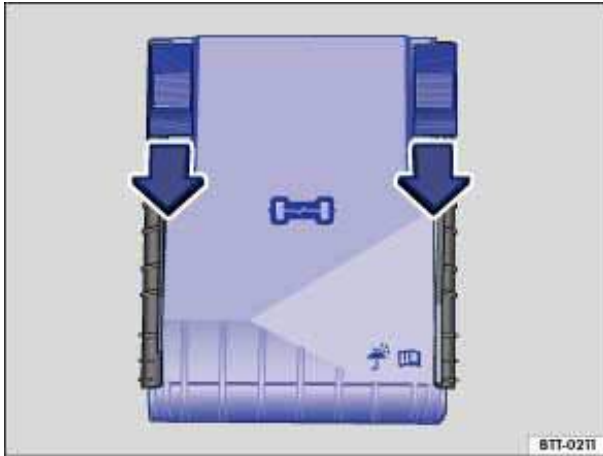

Fig. 192 In the engine compartment: Fuse box cover.
- Move the release buttons in the direction of the arrows ⇒ fig. 192 to unlock the fuse box cover.